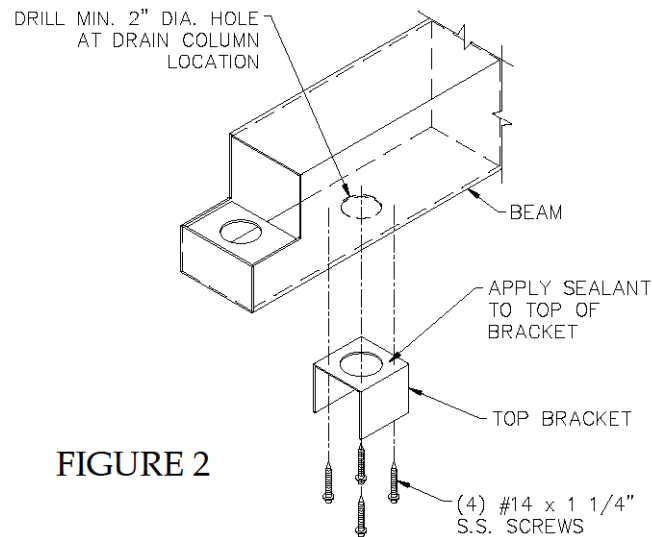

FIGURE 2
- E. Mark the locations on the beam for the column top bracket(s) (see the canopy plan for column spacing). Drill any necessary drain holes (see plan for drain column locations) before attaching the top brackets. Predrill (4) equally spaced 1/4" holes in the top face of each bracket. Apply a generous amount sealant to the top face of each bracket at dry column locations before attaching it to the beam to prevent water intrusion into the dry columns. Attach the bracket(s) to the beam using #14 x 1 1/4" SS screws (Figure 2). See the canopy drawings for number of screws required.